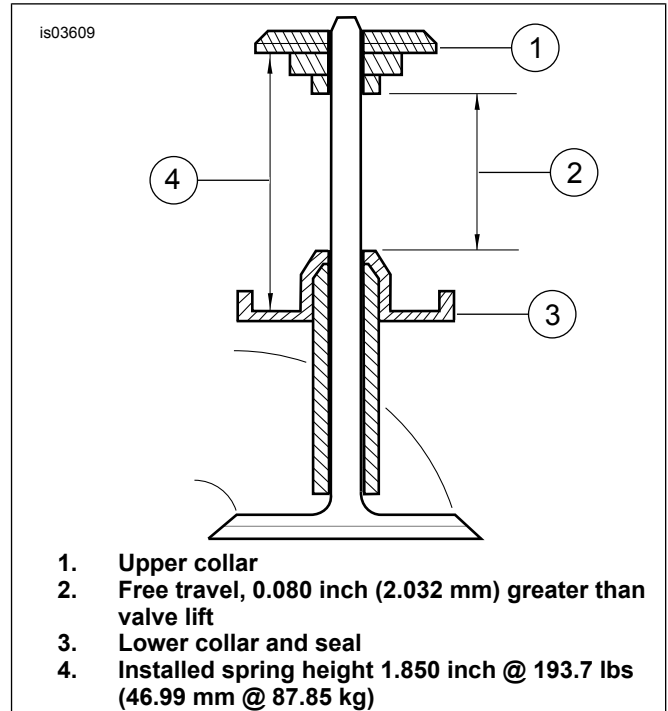

Figure 1. Installed Spring Height
7. See Figure 1. Using the springs, collars and keys from this kit, assemble cylinder heads following service manual instructions.